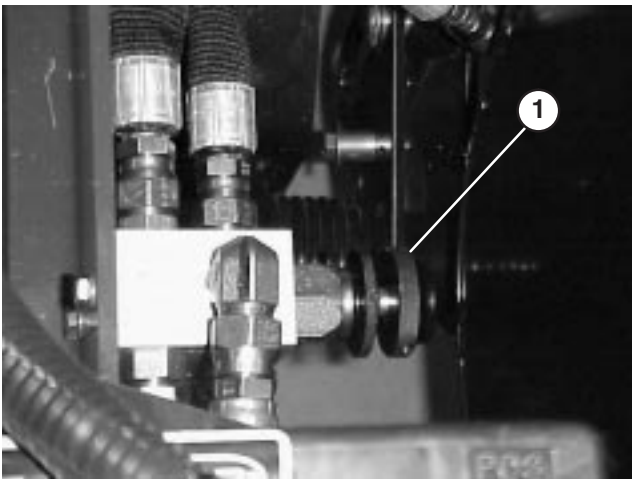

Figure 57
1. Raise hood and locate valve in center of machine behind engine (Fig. 57).